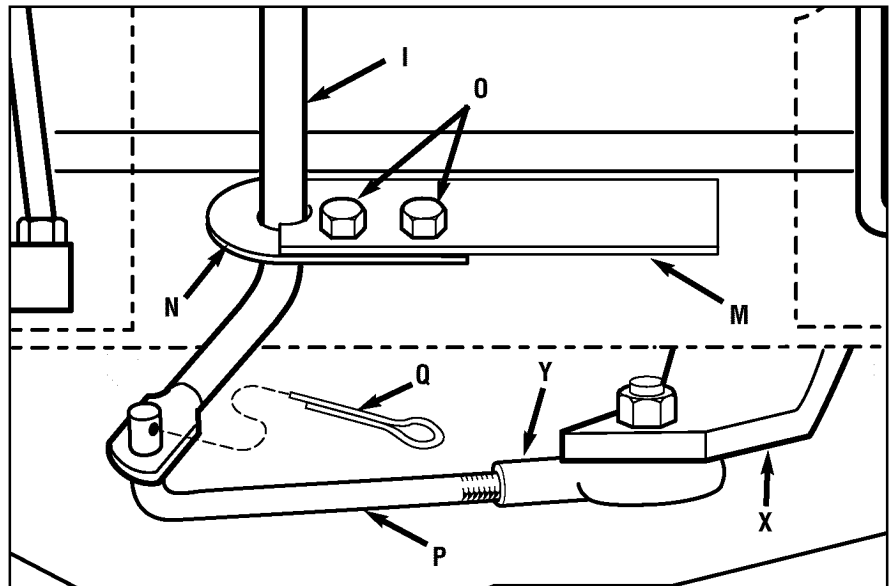

Figure 2-9: Detail - Transmission Neutral Adjustment.
1. Hold lower part of gear select lever (I, Figure 2-9) against bracket (M). Position retaining plate (N), removed earlier, as shown in Figure 2-9 (plate below bracket). Secure plate with two 1/4"-20 x 1/2" screws (O) and 1/4"-20 locknuts.
8. At bottom of control rod, thread shift link (P, Figure 2-9) partially into ball-joint (Y).
9. Move shift arm (X, Figure 2-9) from side to side as necessary into each transmission gear detent until transmission is in neutral.
10. When shift arm (X) is in neutral position, rotate shift link (P) toward end of gear select lever rod (I). Adjust length of shift link (P) as necessary to fit into hole in bottom of gear select lever (I).
NOTE: Pin (K) on Gear Select Lever (I) must be held in the neutral position detent on the shift quadrant (see Figure 2-8) while shift link (P, Figure 2-9) is adjusted.
11. Insert hooked end of shift link (P, Figure 2-9) into hole in bottom end of gear select lever (I) and secure with cotter pin (Q). Bend ends of cotter pin. NOTE: It may be necessary to lift gear select lever (I) to install shift link (P).
(W, Figure 2-7) and push unit forward and backward. The wheels should move freely. If not, adjust length of shift link (P, Figure 2-9) as necessary.